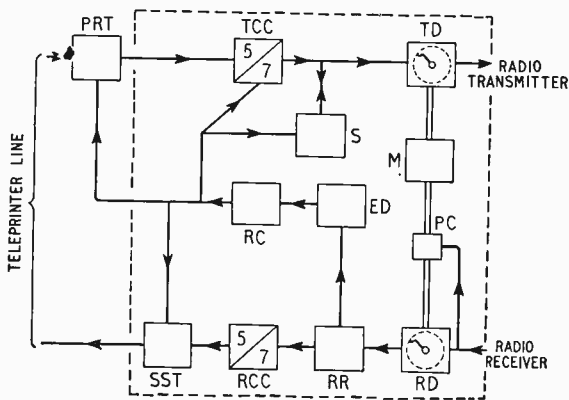

Fig. 1. Van Duuren system of error correction by automatic repetition.
**Error-correction by Automatic Repetition.**—Van Duuren also conceived the idea of error-correction by repetition of the faulty permutation from the transmitter when an error is detected by the receiver. The basic outline of his "teleprinter over radio (TOR)" system, which provides a means for reliable communication between teleprinter systems over a radio circuit, is shown in Fig. 1. The teleprinter signals are received by a receiving reperforator-retransmitter (PRT) which records them on a perforated tape which is then read into the TOR at the correct time interval. The code signal is presented in parallel form to the code-converter (TCC) which comprises a relay switching system. The resultant 7-unit code permutations are transmitted sequentially by a mechanical distributor (TD) driven by a synchronous motor (M) fed from a stable-frequency source of power. The 7-unit permutations are also stored for a period (as will be explained later) as charges on a bank of capacitors, a series of banks (S) being switched in sequence by relays so that several characters may be stored.